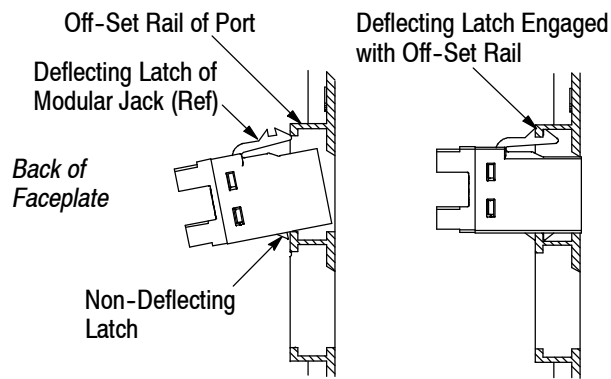

Figure 2
1. From the back of the faceplate, rest the non-deflecting latch of the modular jack or insert on the bottom of the port opening. The deflecting latch should be facing up according to the “UP” designator marked on the back of the faceplate. Refer to Figure 2.